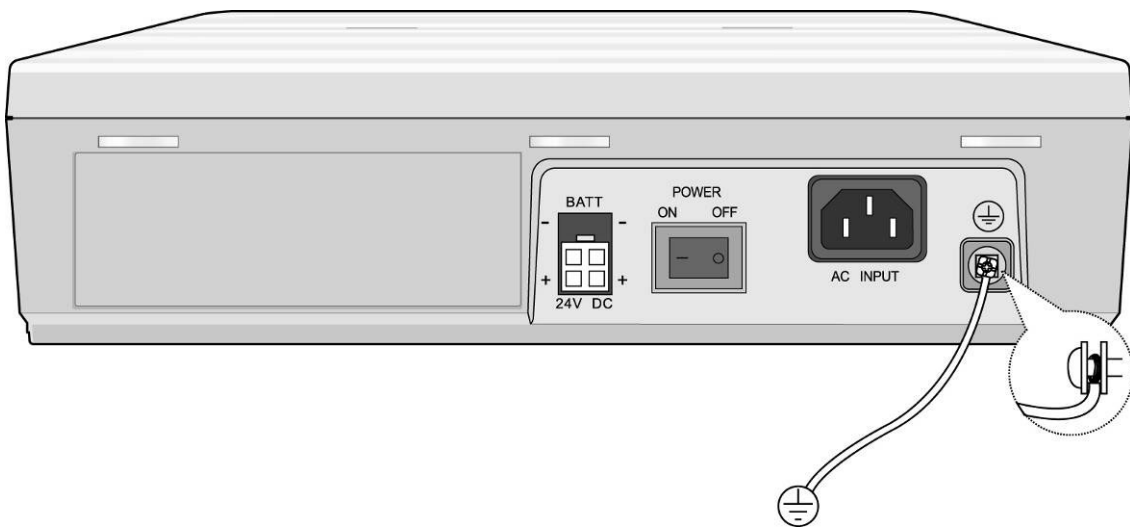

FIGURE 3.2.5 GROUNDING THE KSU
1. Turn the grounding screw counter clockwise to loosen, as shown in Figure 3.2.5.